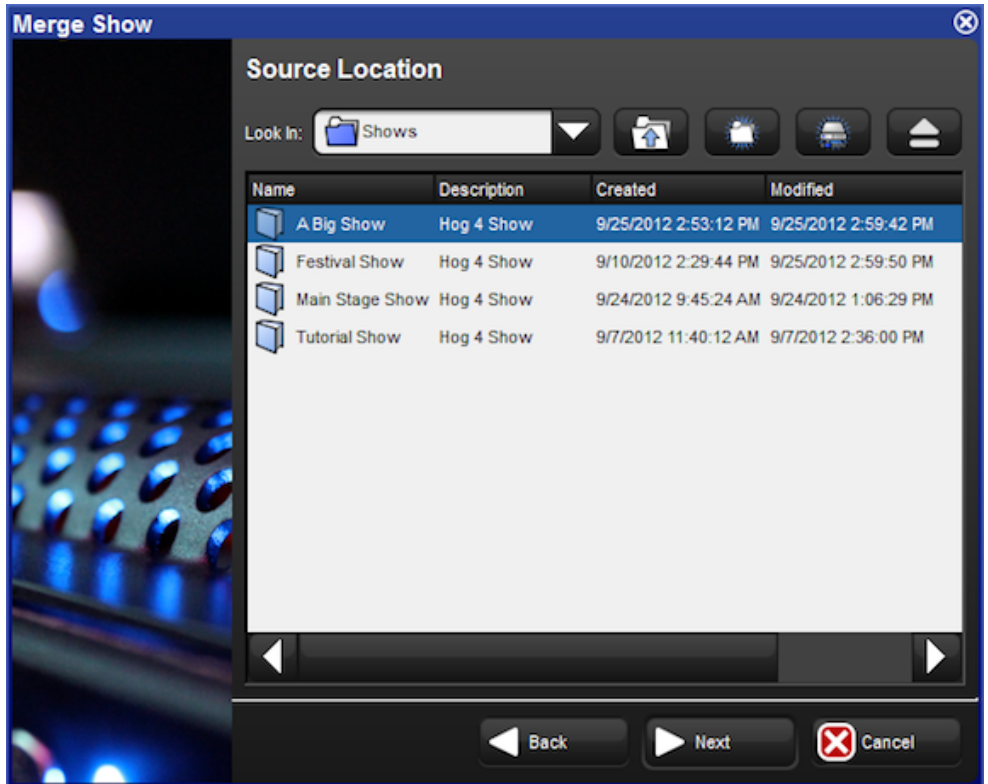

Figure 4.4. The Source Location page of the Merge Show window
2. Press Merge to be guided through the merge process. The Merge Show window will open; see *Figure 4.4, "The Source Location page of the Merge Show window"*.